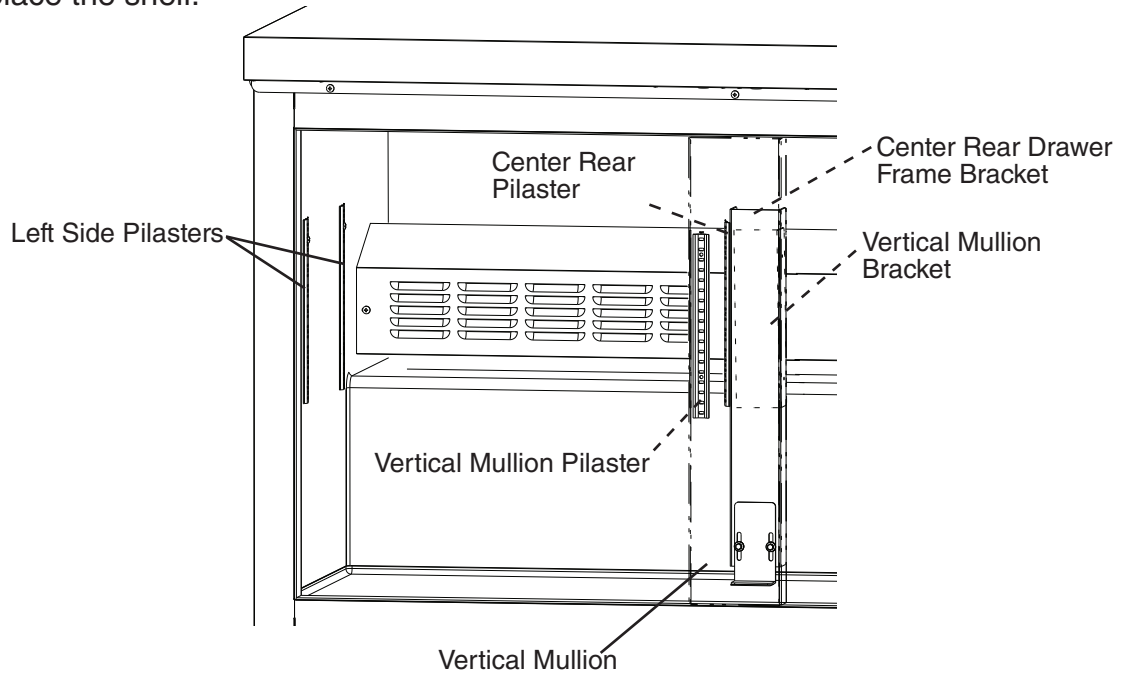

Fig. 22
- 8) Place and secure the pilasters and shelf support clips in their new location. See Fig. 22. Replace the shelf.